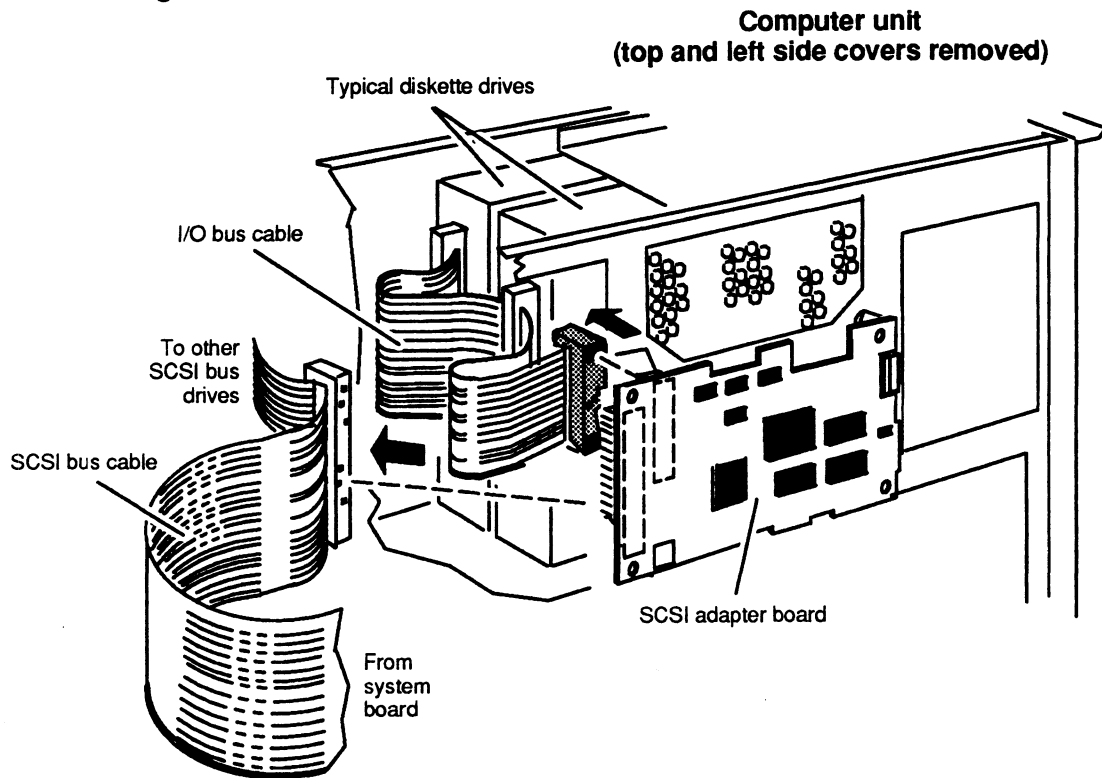

Figure 2-15 Unplugging the SCSI Bus and I/O Bus Cables from the SCSI Adapter Board
1. Unplug the SCSI bus and I/O bus cables from the SCSI adapter board as shown in Figure 2-15.